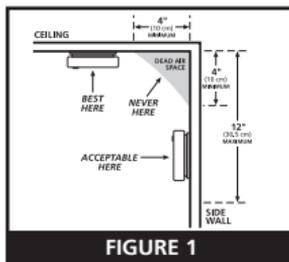

FIGURE 1
- When mounting an alarm on the ceiling, locate it at a minimum of 4" (10 cm) from the side wall (see FIGURE 1).
- When mounting the alarm on the wall, use an inside wall with the top edge of the alarm at a minimum of 4" (10 cm) and a maximum of 12" (30.5 cm) below the ceiling (see FIGURE 1).
Modern mobile homes have been designed and built to be energy efficient. Install smoke alarms as recommended above (refer to RECOMMENDED LOCATIONS and FIGURES 1 and 2).
In older mobile homes that are not well insulated compared to present standards, extreme heat or cold can be transferred from the outside to the inside through poorly insulated walls and roof. This may create a thermal barrier which can prevent the smoke from reaching an alarm mounted on the ceiling. In such units, install the smoke alarm on an inside wall with the top edge of the alarm at a minimum of 4" (10 cm) and a maximum of 12" (30.5 cm) below the ceiling (see FIGURE 1).